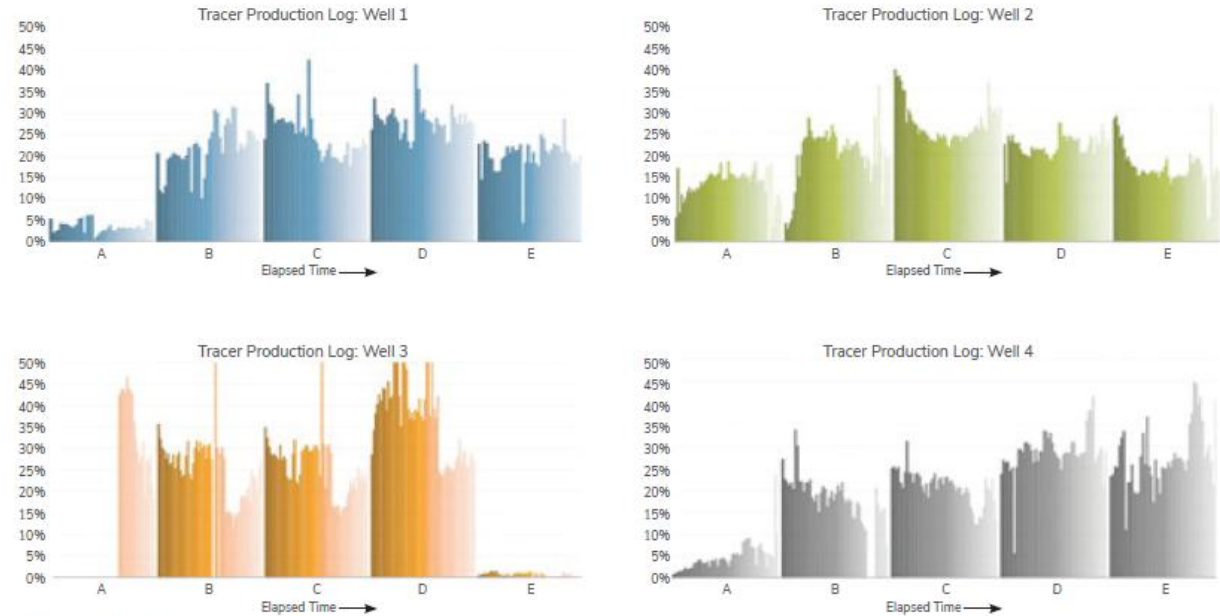

Figure 4 - Flow Contribution over Time
- Figure 4 shows the zonal contribution variation of each zone over 150 equivalent days. This type of knowledge helped in understanding the effectiveness of the well stimulation program and characterising the true potential of the reservoir. A single snapshot in time will not capture the true potential of a zone if it is changing with time.